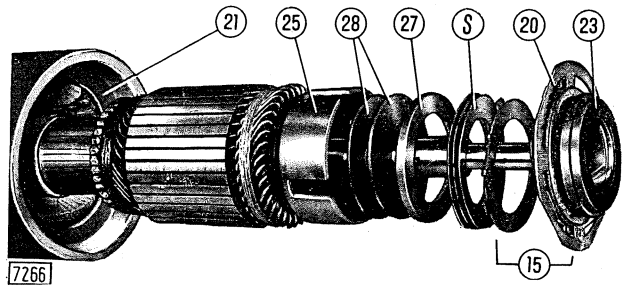

Fig.17 - Friction joint parts and drive end view of carcass.
- clutch slip torque with the tool **A. 427052** and torque wrench. If the torque value is lower than 12 Kgm (86.8 ft. lb), add one or more shims (S, Fig. 17).
- fit the compression ring (27, Fig. 17)of the clutch coupling arranging it with the flat surface abutting against the shims (S);